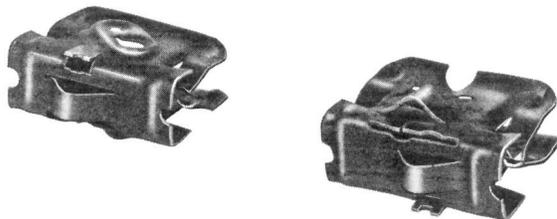

Fig. 1 — B Beam Clip
1.01 This phosphate coated spring-steel clip provides means for attaching drive rings, bridle rings, and mounting screws or bolts to the flanges of structural I-beams, angles, and channels where intermediate support is required for drop wire, station wire, and cable runs. It has loops to accommodate the drive rings and holes into which to turn threads of the bridle rings, screws, and bolts. It is intended for inside use only on flanges 1/8- to 1/2-inch thick (see Fig. 1).